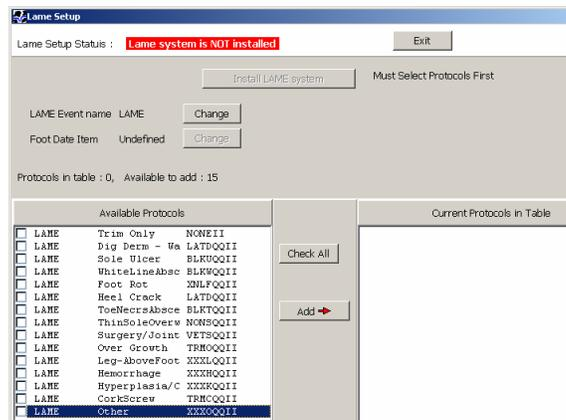
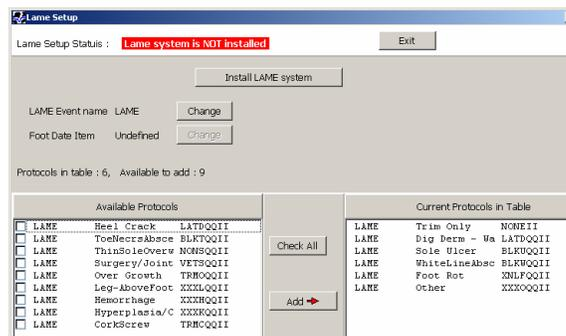

FIGURE 1
FIGURE 2
1. By default, the **LAME** event is used to track your foot trim results. You need to select protocols you would like when entering your hoof health results (Figure 1). Make sure you include the selection 'Trim Only'. The **Trim Only** protocol will put a **FOOTRIM** event on the cowcard and all other trim results will be displayed with the **LAME** event. Click on the **ADD** button to add protocols that you checked-off from the 'pick' list. You can choose from these when entering your hoof trim visit results. After clicking the **ADD** button, you should see a screen like Figure 2.